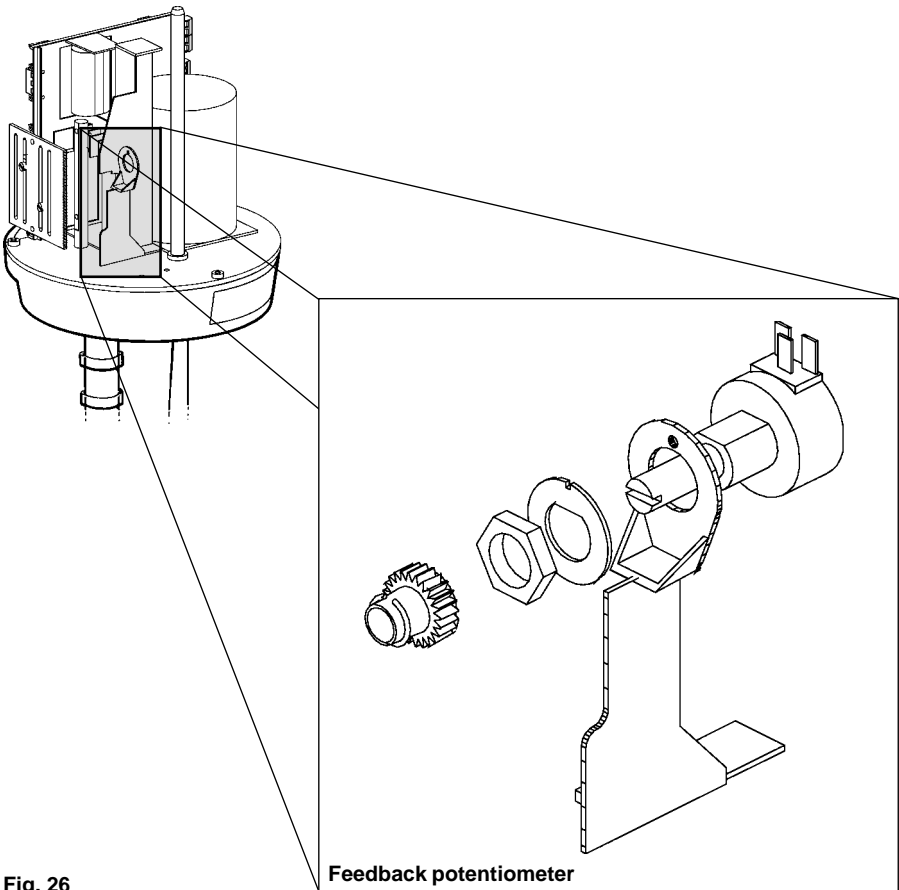
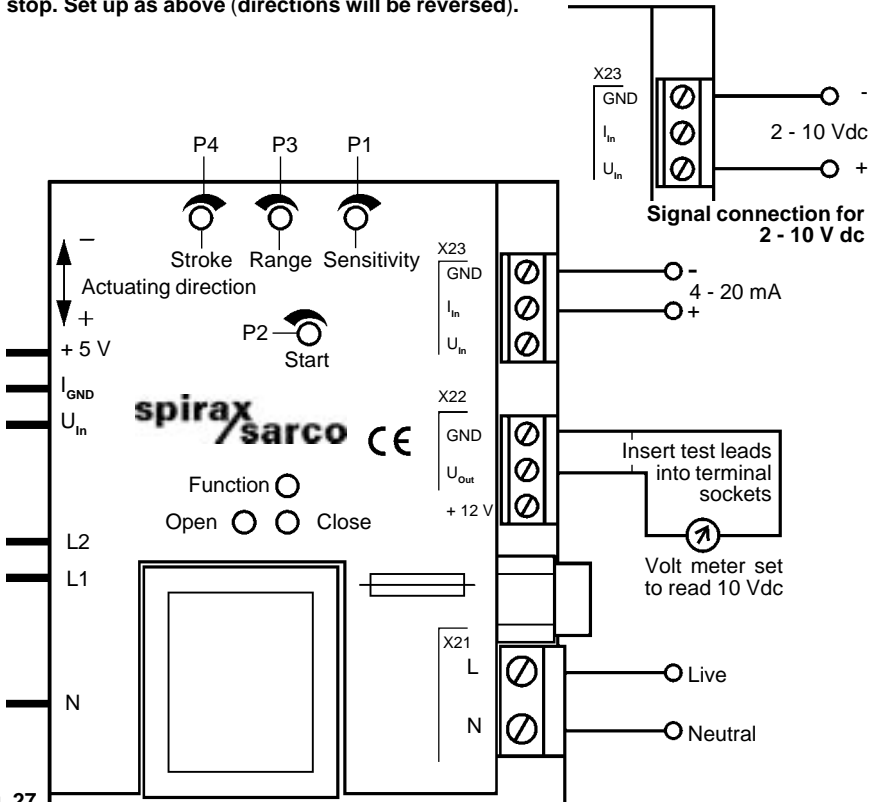

Fig. 26
Fig. 27
6. At this point the multimeter should read 0 V. If it does not turn the shaft of the feedback potentiometer until the multimeter reads the required 0 V (Fig. 26). Adjust start potentiometer P2 (Fig. 27) until the close LED just switches off.